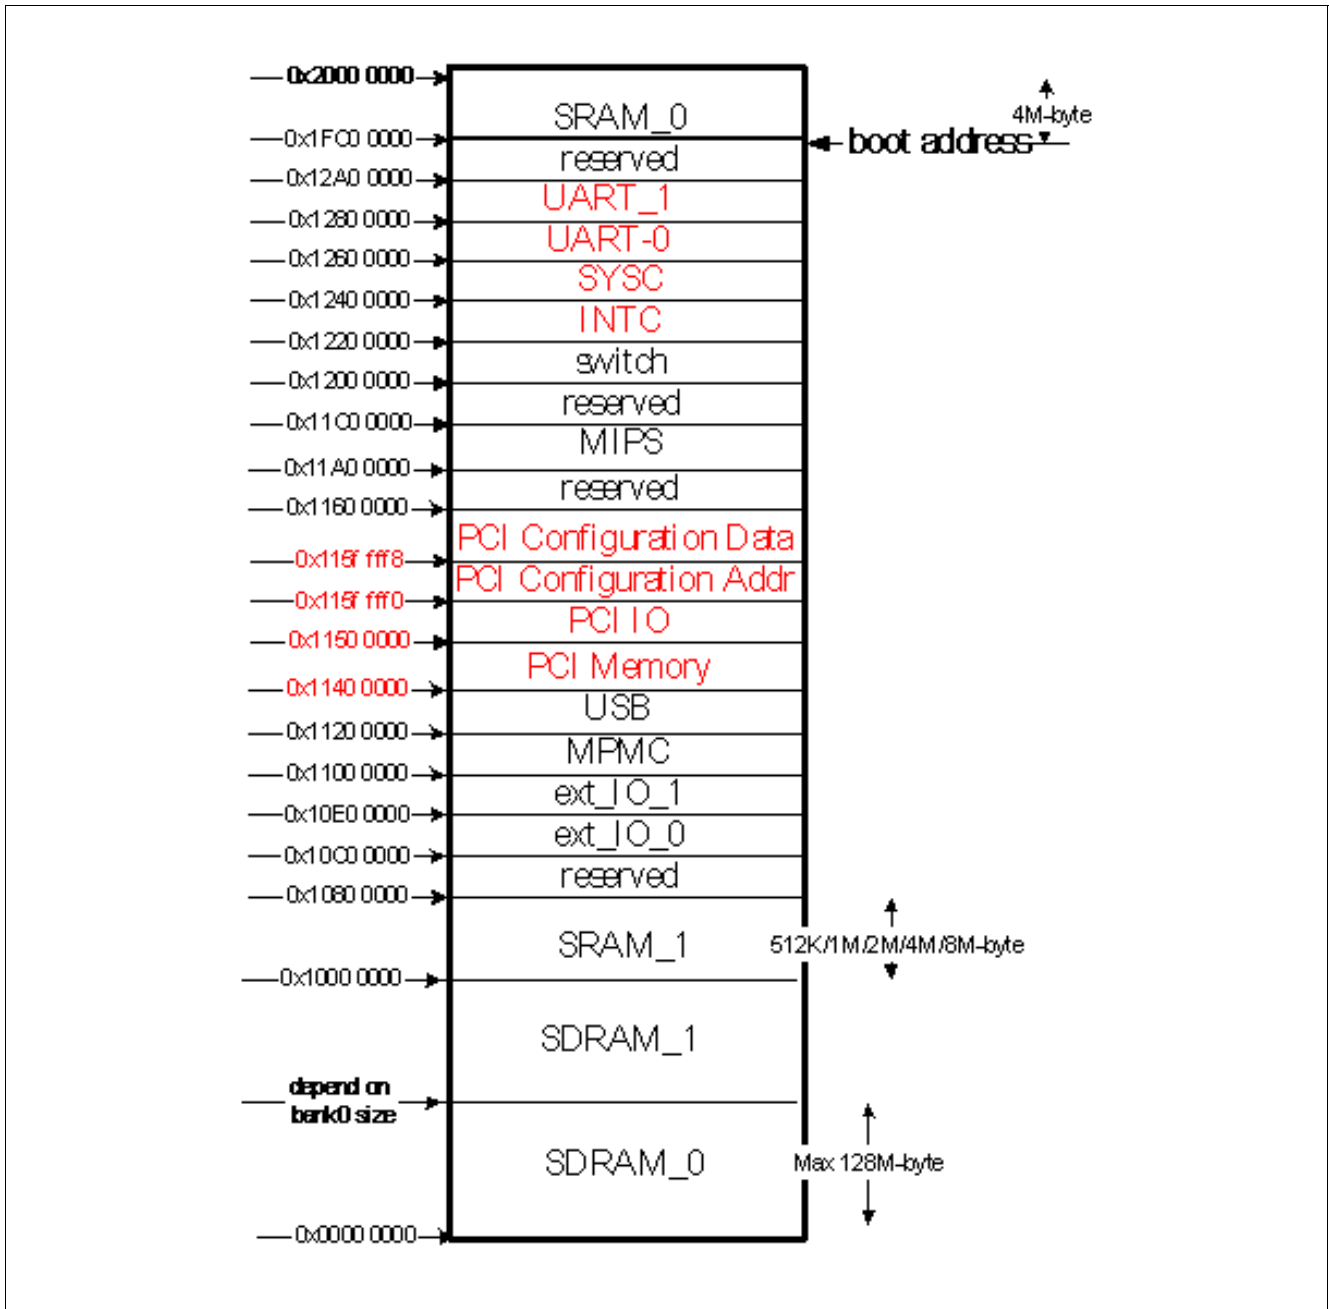

Figure 4 System Memory Map
**Figure 4** shows the system memory allocation. The following lists a detailed reference for each allocation: